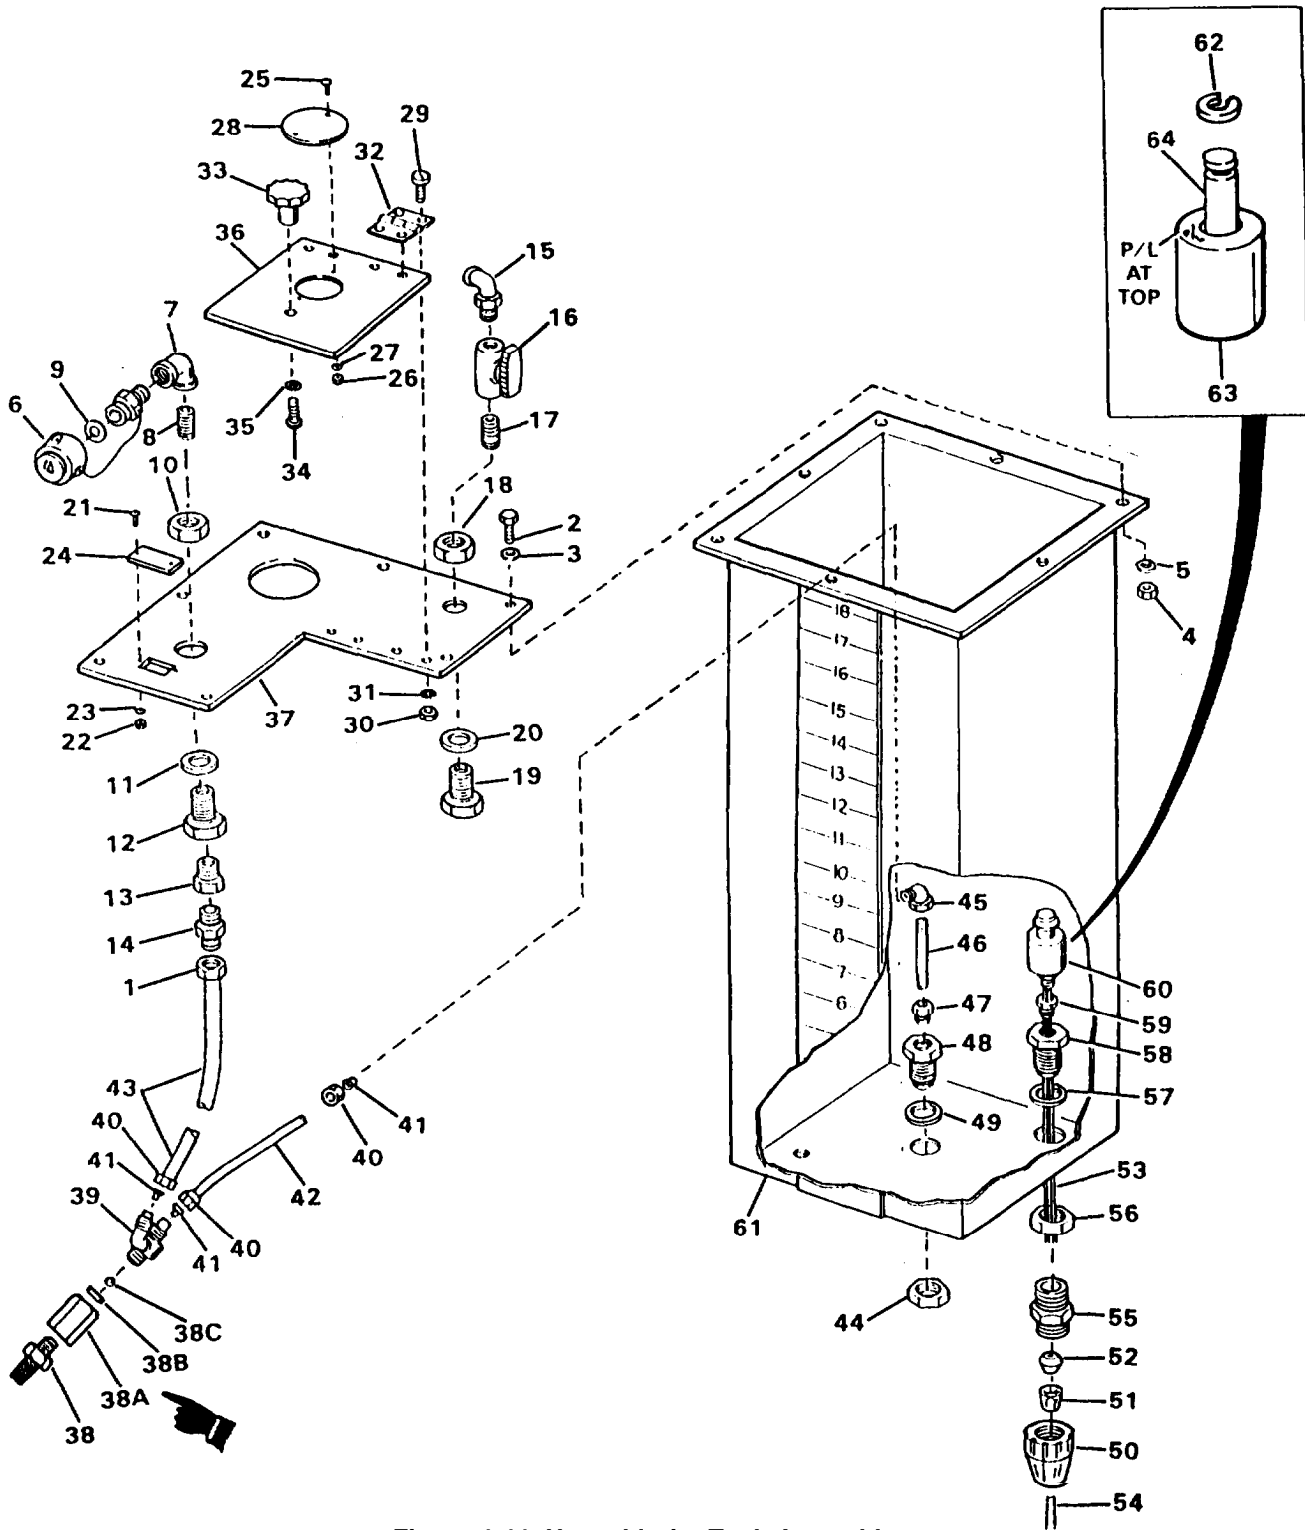

Figure 4-44. Hypochlorite Tank Assembly
- a. Disconnect tubing by unscrewing nut (1, Figure 4-44). Remove cover (37) with assembled components by removing four capscrews (2), washers (3), nuts (4) and washers (5).
- b. Remove dust cap (6), elbow (7) and nipple (8). Remove gasket (9) from dust cap (6).
- c. Remove nut (10), gasket (11), fitting (12), bushing (13) and tube fitting (14).
- d. Remove elbow (15), valve (16), nipple (17), nut (18), fitting (19) and gasket (20).
- e. Remove two screws (21), nuts (22), washers (23) and nameplate (24).
- f. Remove two screws (25), nuts (26), washers (27) and nameplate (28)
- g. Remove four screws (29), nuts (30), washers (31) and hinges (32).
- h. Remove knob (33) by removing screw (34) and washer (35). Plate (36) and cover (37) are now free.
- i. Disconnect nut (44) and pull assembled items (38 thru 49) out as an assembly. Remove strainer (38), valve seat (38A), preformed packing (38 B), and ball check (38C) from primer fitting (39).
- i.1. Unscrew nuts (40) from primer fitting (39) and elbow (45). Compression rings (41) and tubing (42 and 43) can now be removed. Remove elbow (45), nipple (46), bushing (47), bulkhead fitting (48) and gasket (49).
- j. Unscrew nut (50). Retainer (51) and bushing (52) are now loose on wires (53) and can be slid off at the free end.
- a. Hold switch (60) with clip pointing upward and wires (53) pointing downward as shown in Figure 4-44.
- b. Refer to the inset on Figure 4-44 and find letters P/L on float (63), P/L must be at clip end of shaft (64). If not, remove clip (62), and reposition float (63) on shaft (64) with P/L clip end. Reinstall clip (62).
- c. Attach a multimeter set to ohms x 1 to the black wire (53) and either one of the other two wires (53).
- d. Check for continuity between the two wires while holding the switch (60) with the wires pointing down and the float bottomed out on the switch shaft, If the circuit is open, attach the multimeter to the other colored wire.
- (1) Wires down/float down . . . . . 324 to 342 = continuity; 324 to 341 = open circuit
- (2) Wires down/float up . . . . . 324 to 342 = open circuit; 324 to 341 = continuity